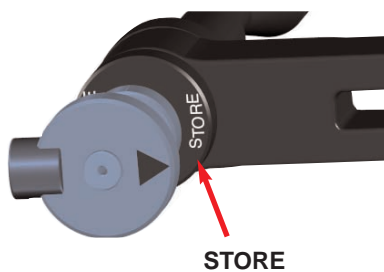

Fig. 8
3. Push the plunger as far as possible, fully depressing the tension pin, and rotate the needle to the STORE position. See Fig. 8.